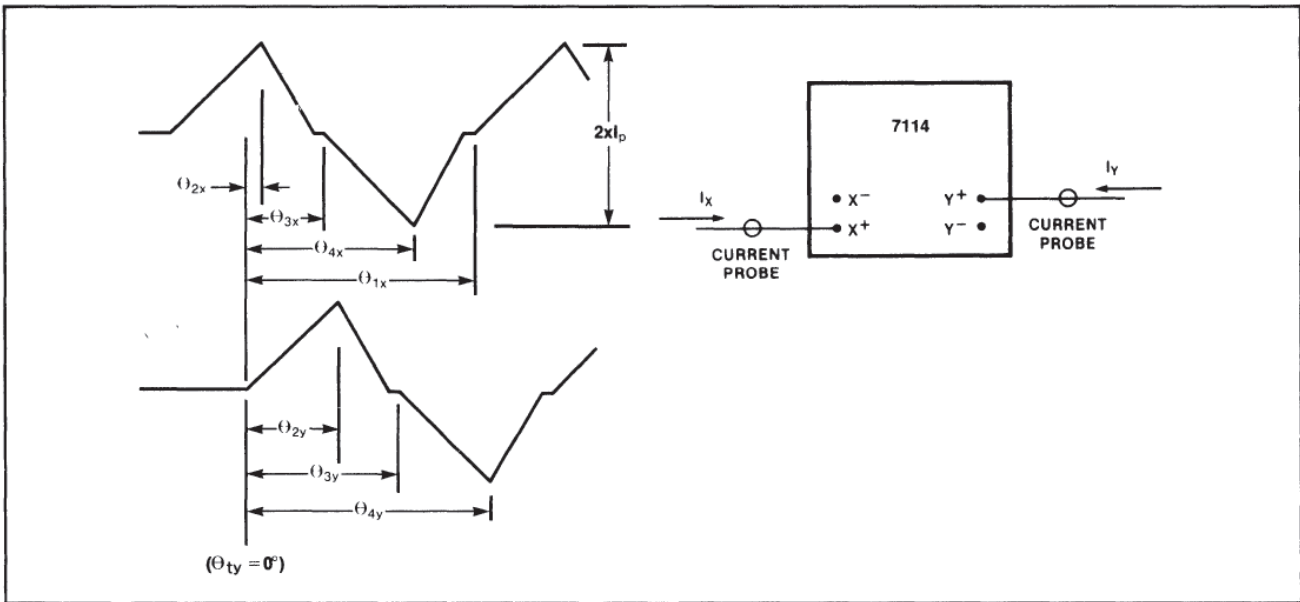

Figure 4. X-Y Coil Waveforms and Test Set-Up
2. See Figure 4 for test set-up and X-Y Coil waveform.